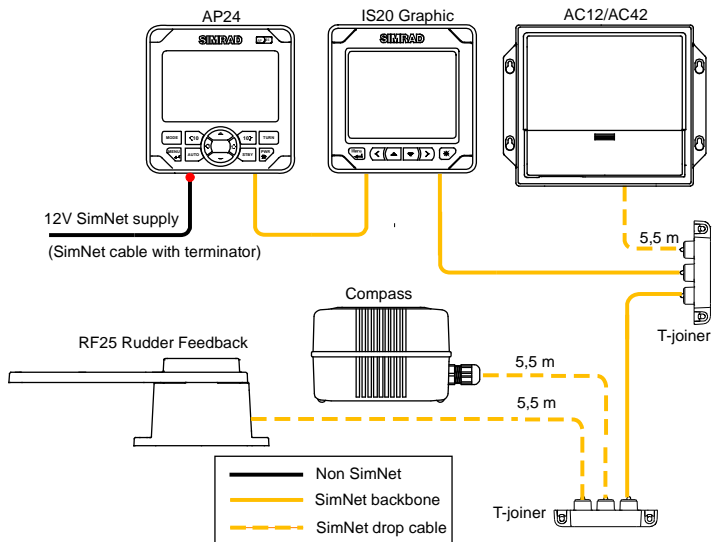
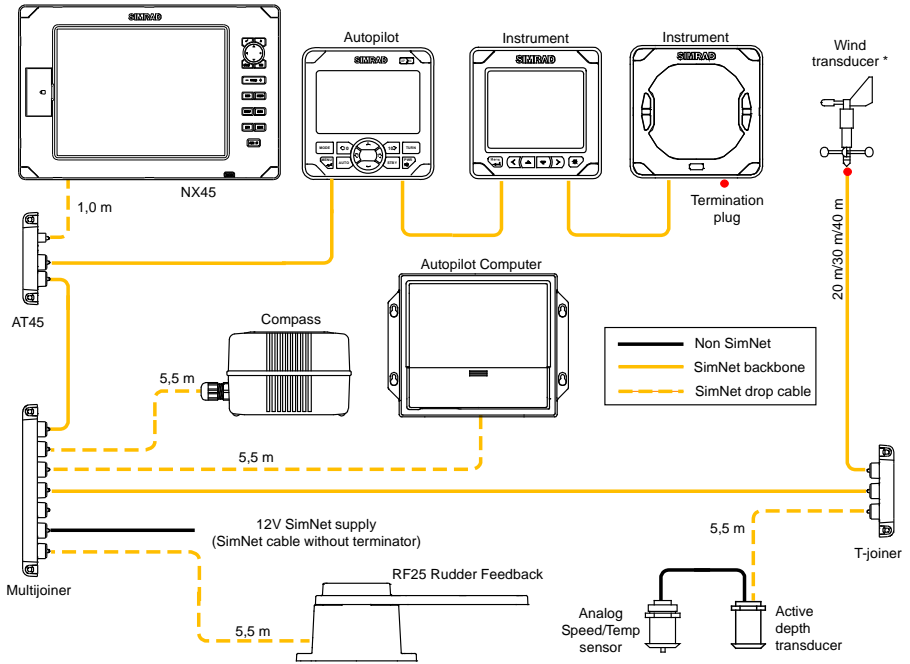
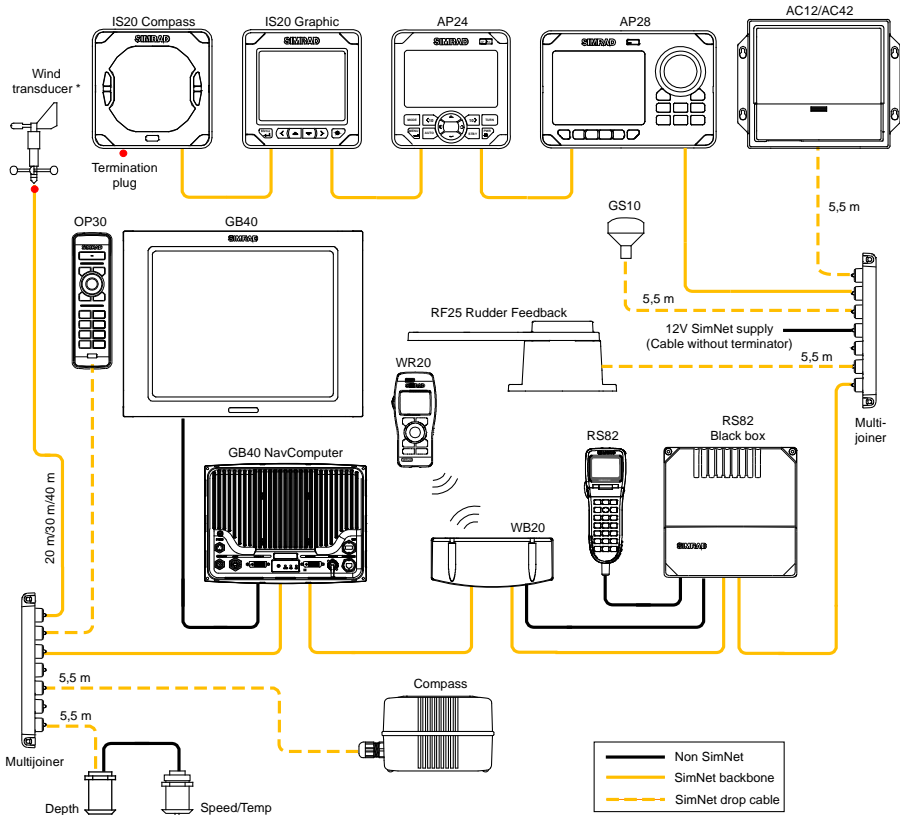

Figure 2-20 SimNet network, small system
Figure 2-21 SimNet network, medium system
Figure 2-22 SimNet network, expanded system
A SimNet unit has one or two yellow SimNet connectors. There are no dedicated "in" or "out" connectors. Route the SimNet cables with Figure 2-20, Figure 2-21 or Figure 2-22 as a guideline. Select cables and accessories from the SimNet accessory program. Connect products with two SimNet connectors in a daisy chain and use drop cables and T-joiners when required. For cable extension in-line cable joiners are available. Total length of SimNet cable installed in a system should not exceed 150 meter (500').
- 3 It will power a SimNet compatible instrument system. Hence SimNet to other equipment can be supplied via the autopilot, see Figure 2-20, Figure 2-21 and Figure 2-22.
- 4 SimNet must be properly terminated, i.e. unless it is a small system (see Figure 2-20) there must be terminations at each end of the Simrad backbone.